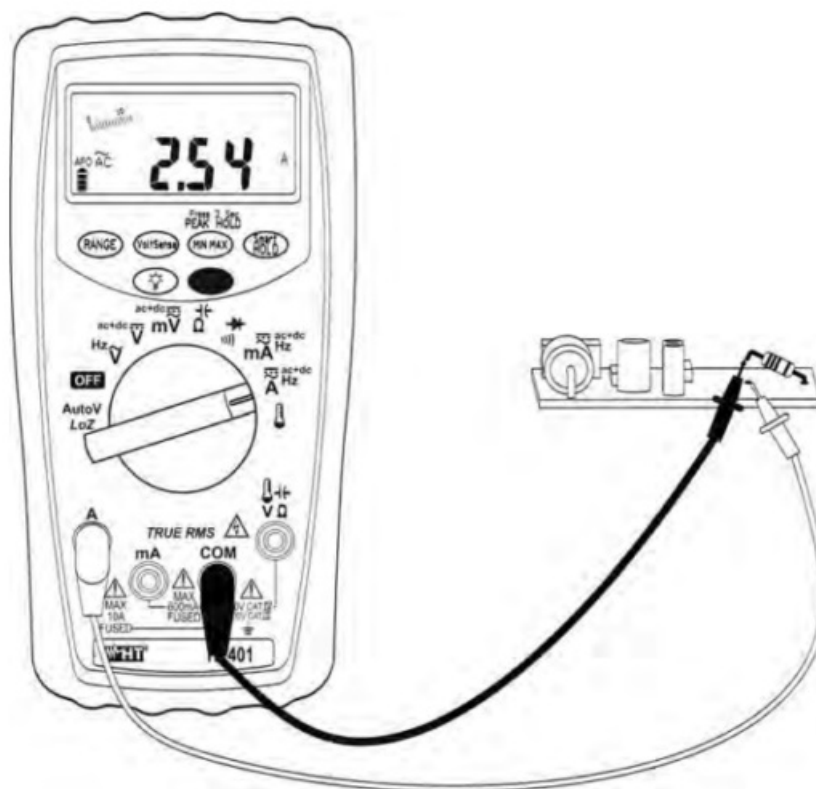

Fig. 6: AC current measurements
6. Connect the red lead and the black lead in series to the circuit whose current you want to measure, respecting polarity and the current direction indicated in Fig. 6